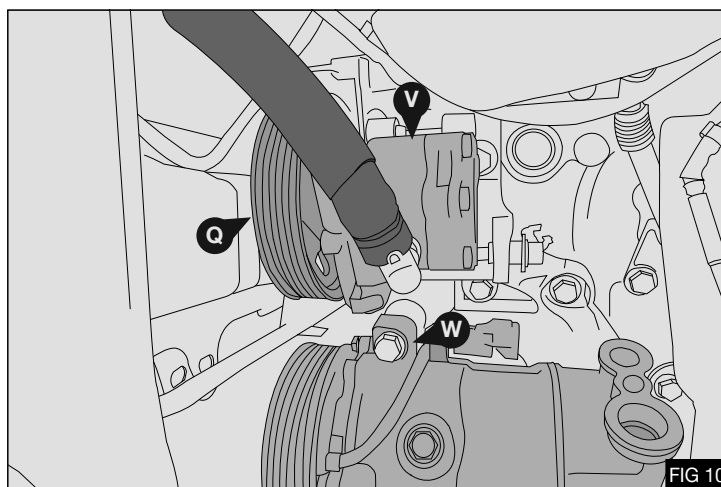

FIG 10
18. Remove the PAS pulley (Q), Disconnect PAS feed hose; remove the PAS pump (V) – Retain fasteners - Fig 10
19. Remove the air-conditioning compressor (W) – Retain fasteners. - Fig 10